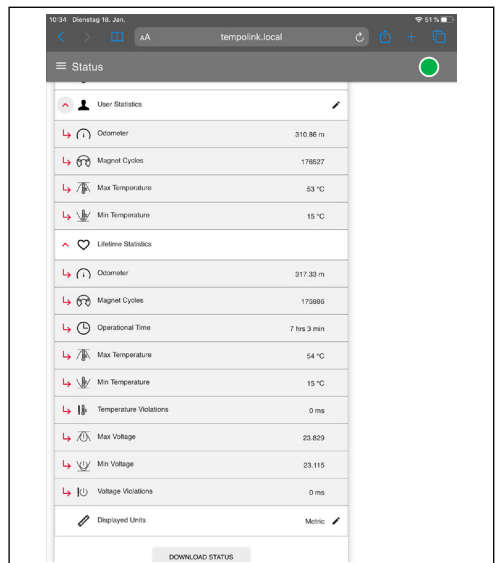

Fig. 26: Values under “User Statistics” and “Lifetime Statistics”
- **User Statistics:** Depending on the firmware of the sensor status information is displayed which you can reset. By clicking the red arrow on the left the following information is displayed (Fig. 26):